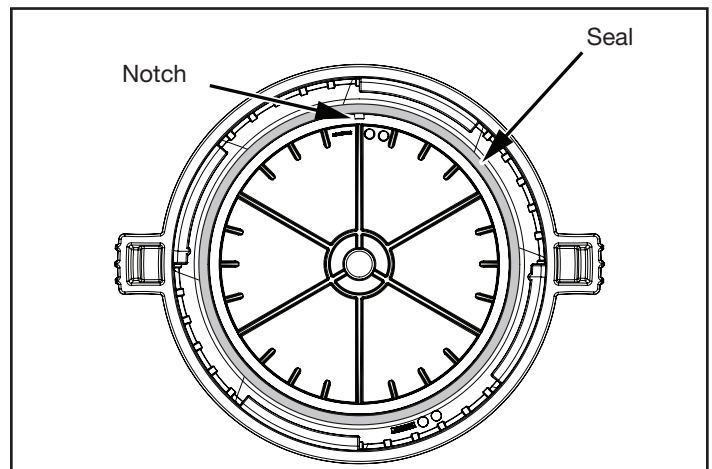

Figure 9. O-ring in Lid Assembly
7. Inspect the O-ring located in the lid for debris or damage. See Figure 9. If necessary, insert a flat head screw driver through the notch to assist in removing the O-ring. If there is any evidence of degradation, debris impregnation, or tearing of the O-ring, replace the seal immediately. Use only silicone based O-ring lubricants to assist in assembly.